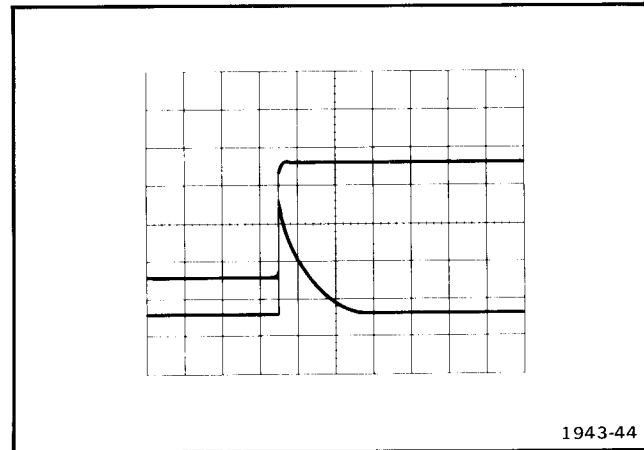

Fig. 6-20. Calibrator frequency (B Sweep display).
g. ADJUST—R1501 to superimpose rising edge of marker waveform and rising edge of calibrator waveform (see Fig. 6-20).